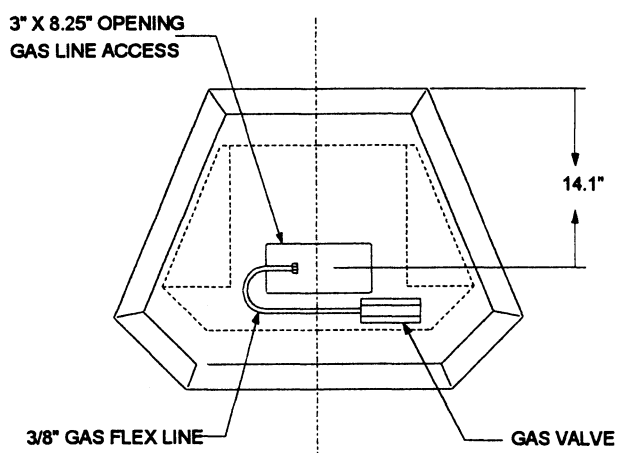

Figure 8a
1. Install the piping below the stove so that it protrudes through the access opening in the pedestal base (see Figure 8a).